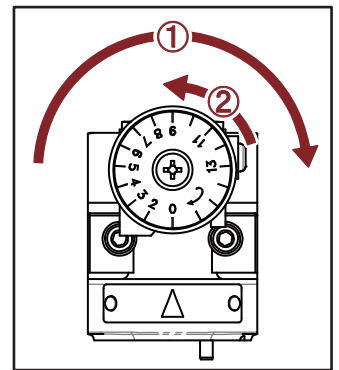
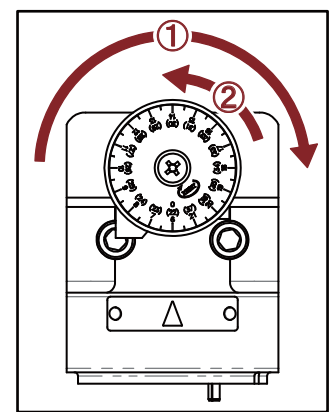

Fig. 7-1
Fig. 7-2
- Left positioning shelf: $\Phi 2.0$ mm - $\Phi 12.0$ mm (Fig. 7-1)
- ① Turn it by clockwise to the end.
- ② Turn it by counterclockwise at "0".
- Right positioning shelf: $\Phi 12.1$ mm - $\Phi 34.0$ mm (Fig. 7-2)